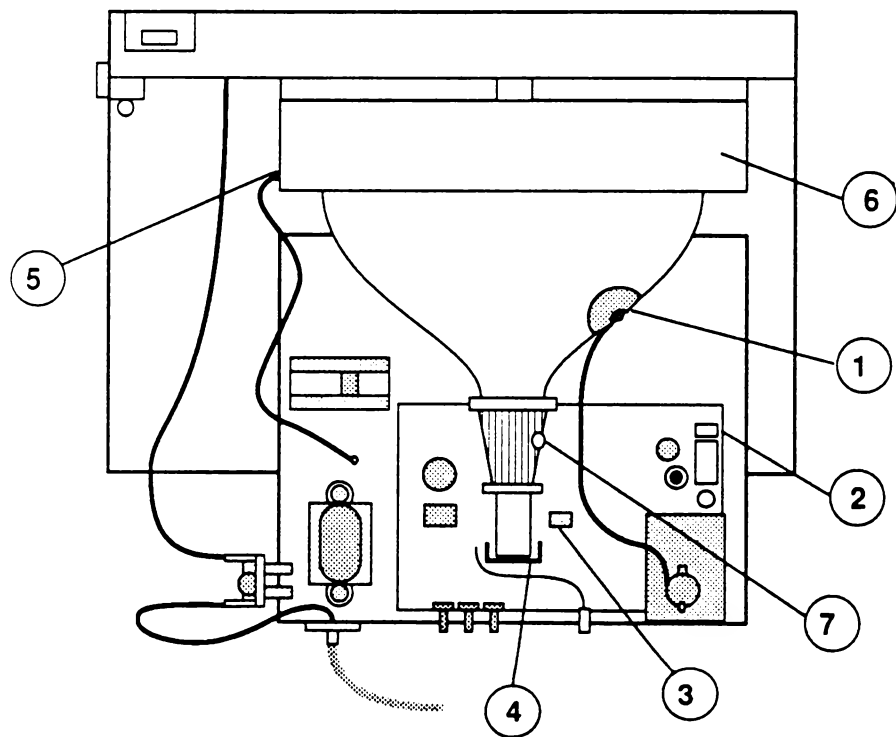

FIGURE 14
3. Remove the anode wire (Figure 14, #1) by peeling back the rubber cap, compressing the prongs of the anode connector clip (using long-nose pliers, if necessary), and pulling the connector out of the anode aperture.
6. Disconnect the brown/gray wire from position H-DY (Figure 14, #2) and the green/white wire from position V-DY (Figure 14, #3) on the main electronics assembly. Using diagonal cutters, carefully cut all the tie-wraps along these wires.
7. Disconnect the socket (Figure 14, #4) from the neck of the CRT.
8. Remove the screw (Figure 14, #5) that secures the chassis ground wire to the left side of the top ground shield.
9. Remove the five screws that hold the upper shield (Figure 14, #6) to the front bezel, and remove the shield.
13. If you need to remove the yoke assembly from the CRT, loosen the clamp screw (Figure 14, #7) and slide the yoke off to the rear of the CRT. (If necessary, cut through the adhesive at the front of the yoke with a scalpel knife.)